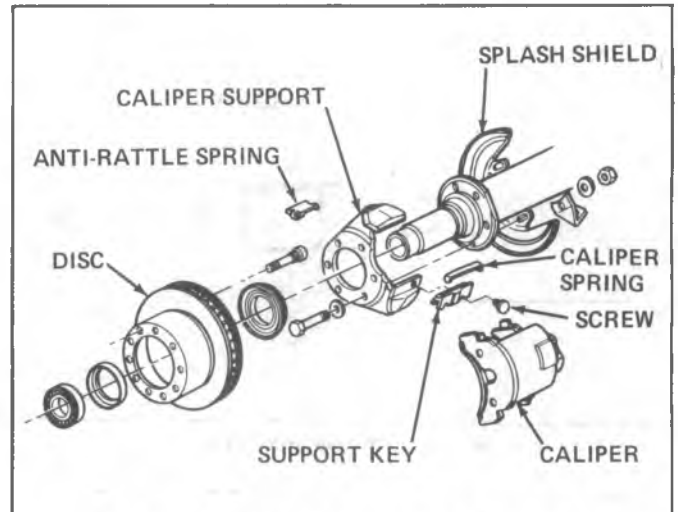

Fig. 5-32--Bendix Rear Disc Brake Assembly
- Remove the inboard shoe from the steering knuckle or rear caliper support (fig. 5-32). Remove and discard the inboard shoe clip. Remove the outboard shoe from the caliper. It may be necessary to tap the shoe to loosen it in the caliper housing. Mark disc pad positions if pads are to be reinstalled.